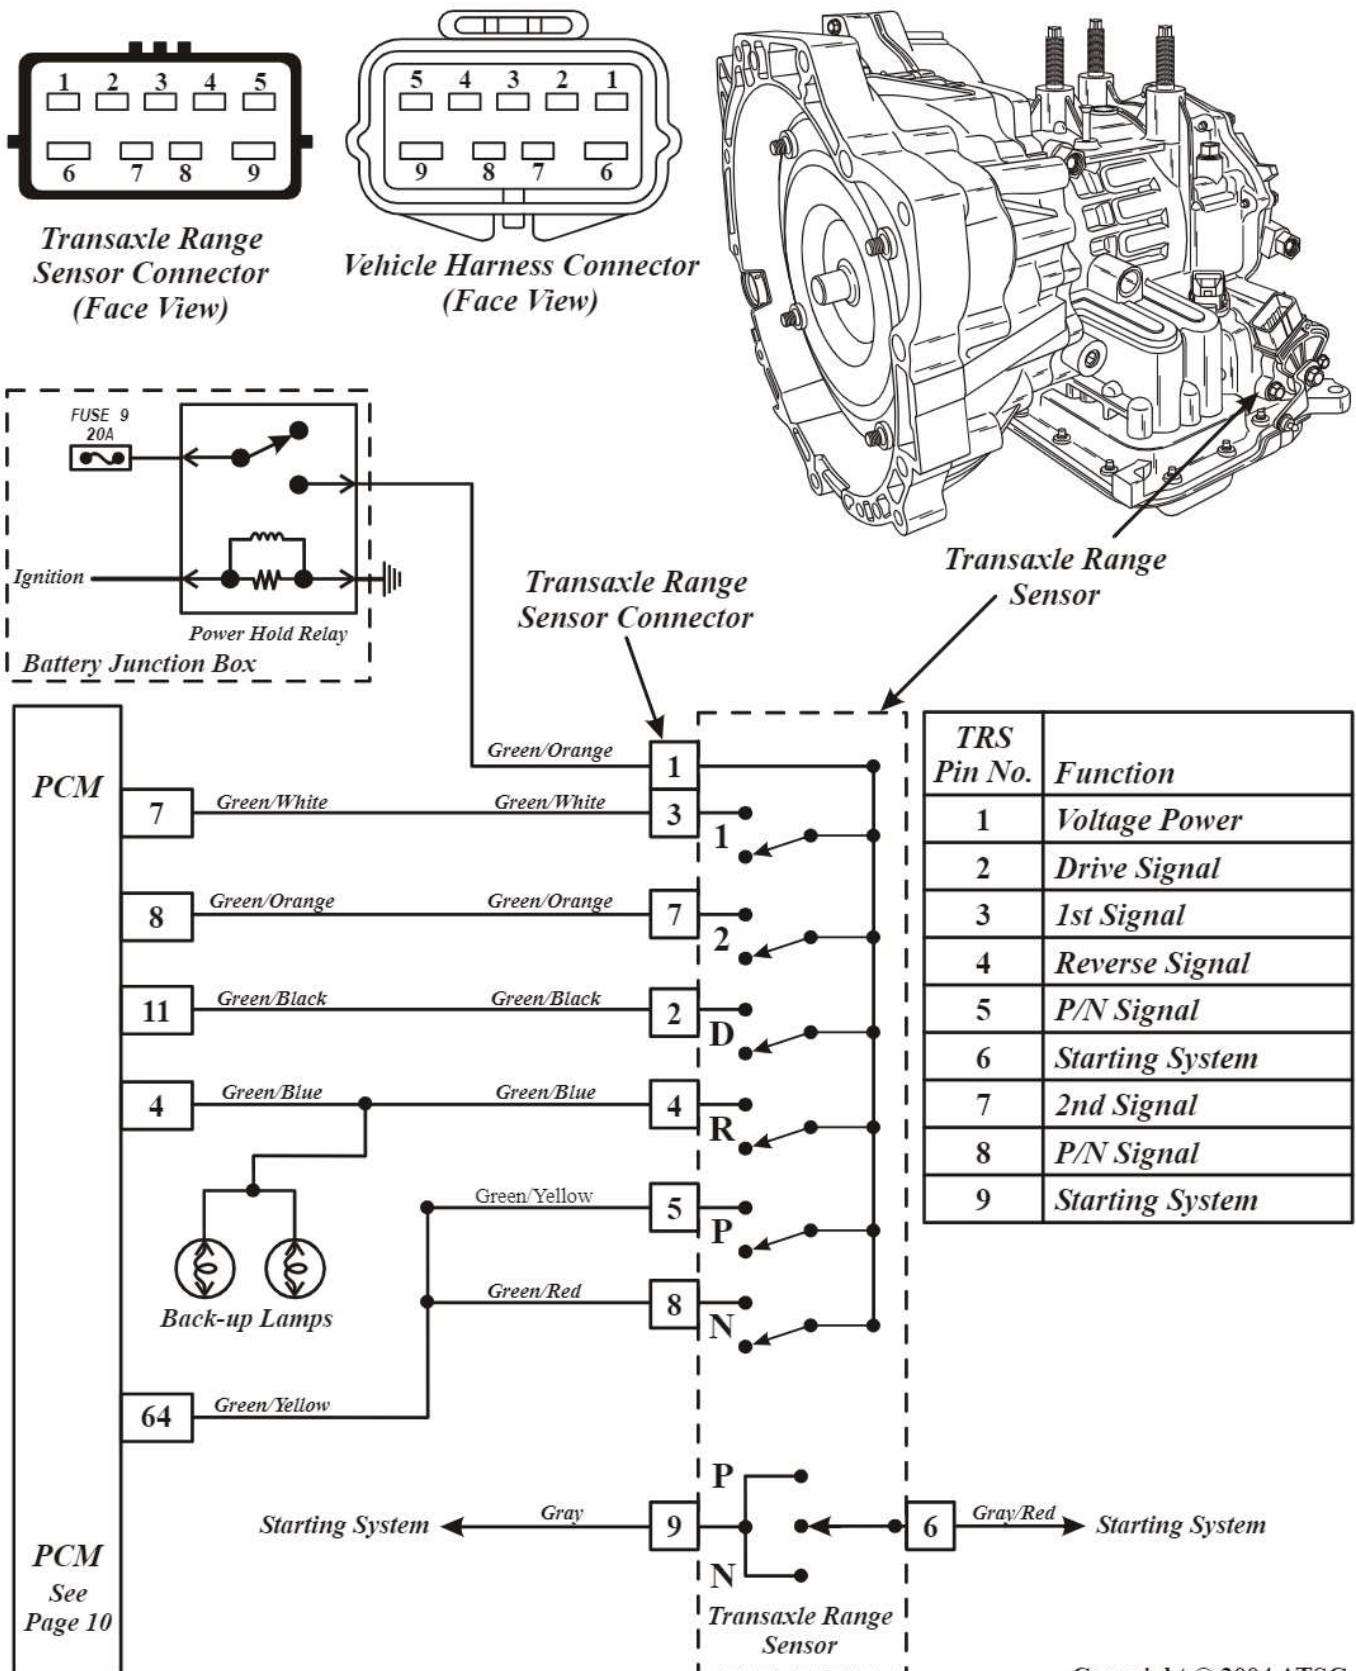

Figure 10
The Transmission Range (TR) sensor is mounted on the transaxle at the manual control lever, as shown in Figure 10. The PCM uses the range sensor for the selected gear, and for EPC pressure control strategy. The TR sensor also contains the Neutral/Start and the backup lamp circuits. We have provided you with a complete range sensor wiring schematic in Figure 10.